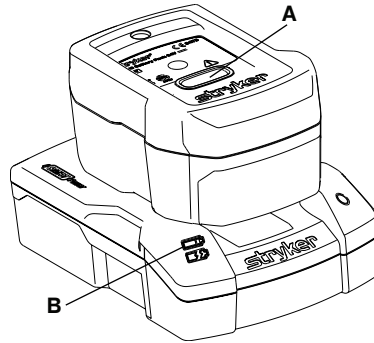

Figure 50 – Charging the SMRT Pak
To charge the **SMRT Pak** (Figure 50):
- The **SMRT charger** LED indicator (B) will flash green while charging (Figure 50). The optimum charge time is two hours.
- When the **SMRT Pak** is charged and ready for use, the **SMRT charger** LED indicator (B) will turn to solid green.
2. Press the red release button (A) (Figure 50) and slide the **SMRT Pak** to release the charged and ready **SMRT Pak** from the **SMRT charger**.